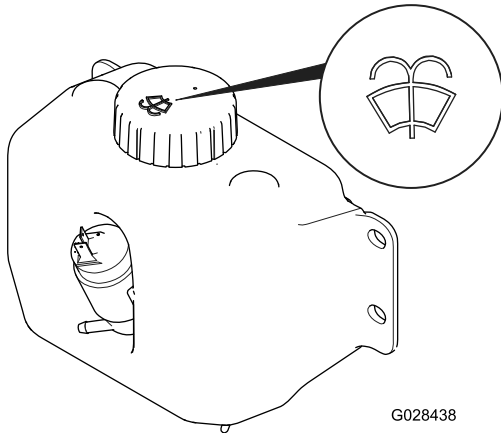

Figure 68
3. Locate the washer fluid bottle (Figure 68).